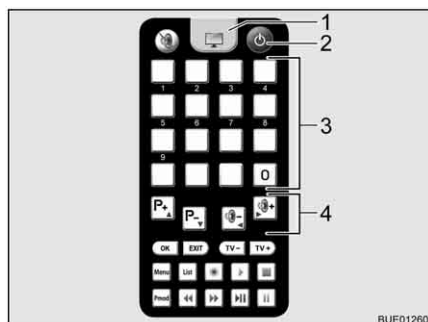

Fig. 22 Remote control for television
- Press the key "⏻" (Fig. 22,2) on the remote control for the television. The unit switches to search mode. You will hear a continuous tone.
- To switch to television reception on the TV remote control, press the TV button (Fig. 22,1). The signal tone will stop. An image will appear on the screen.
- Use the memory buttons (Fig. 22,3) on the TV remote control or the function buttons (Fig. 22,4) to select the desired station.